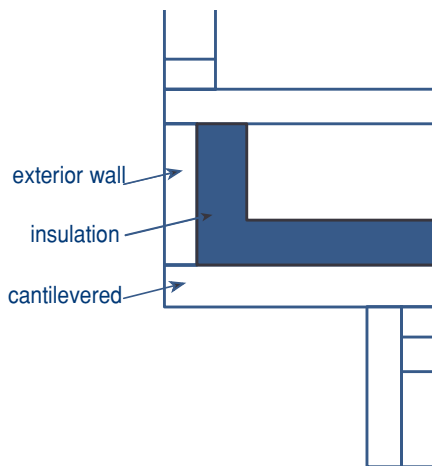

Figure 18: Insulating cantilevered area with batt insulation.
- Step 1:** Working from outside the house, remove portions of the siding or other covering from the bottom of the cantilevered floor (Figures 18 and 19).